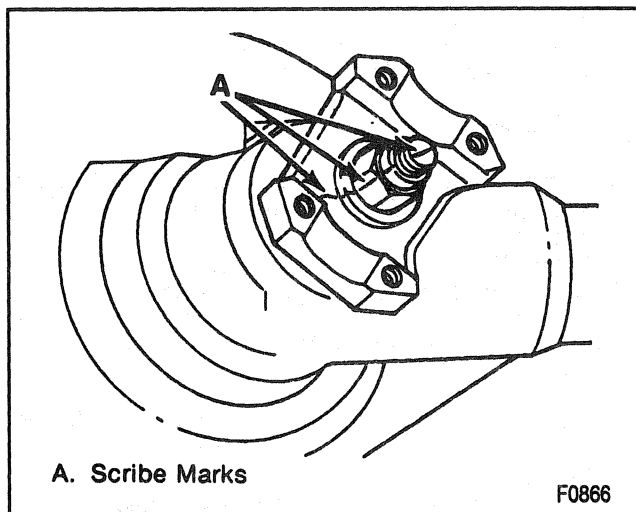

Figure 15—Scribed Marks
- Scribe a line on the pinion stem, pinion nut and the companion flange and record the number of exposed threads on the pinion stem (Figure 15).